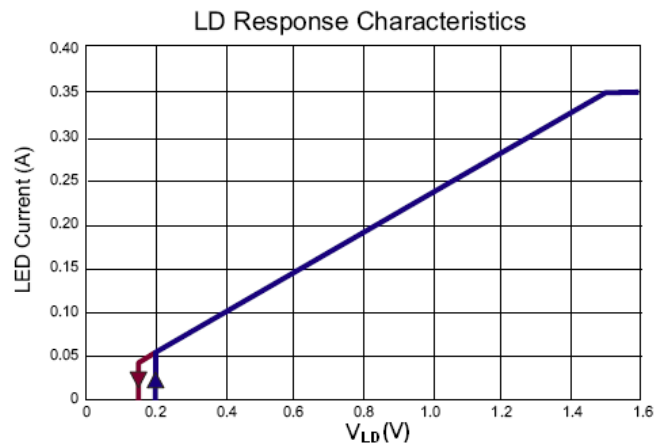

Figure 3. Typical Linear Dimming Response of a SQ9961B LED Driver.
When the voltage at LD falls below 1.5V, the internal 265mV reference to the constant-current feedback becomes overridden by $(V_{LD} \times 0.177)$. As long as the current in the inductor remains continuous, the LED current is given by the equation (3) above. However, when V_{LD} falls below 150mV, the GATE output becomes disabled. The GATE signal recovers, when V_{LD} exceeds 200mV. This is required in some applications to be able to shut the LED lamp off with the same signal input that controls the brightness. The typical linear dimming response is shown in Figure 3.